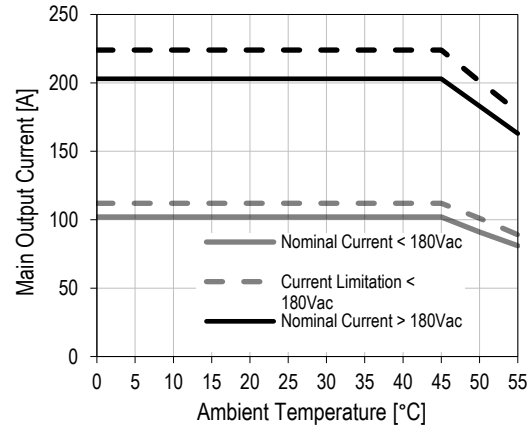

Figure 24. Derating on V_1 vs T_a & V_{in}
3) See Figure 24 and Table 1 for linear derating > 45°C
The main output current limitation level $I_{V1\text{lim}}$ will decrease if the ambient (inlet) temperature increases beyond 45 °C (see Figure 24 and Table 1). Note that the current limitation on V_1 will kick in at a current level approximately 10A-16A higher nominal output current than that is shown.